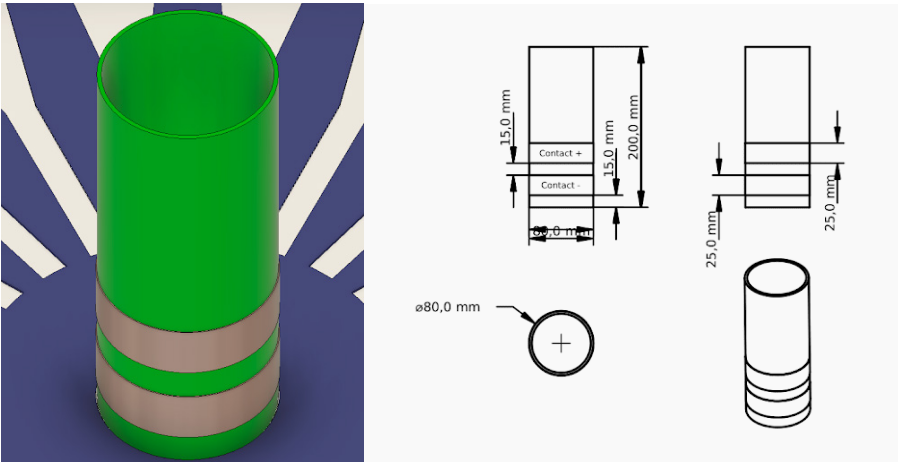

Figure 3
- Figure 3** : Mechanism and 3D view of energy sources.
Figure 3 illustrates the energy sources / energy drains, physical properties and the height of the two electrodes to connect the robot.